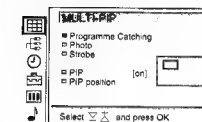

Fig. 36
- 2 Select the symbol for »MULTI PIP« with or and press OK. The MULTI PIP menu appears (See Fig. 36).